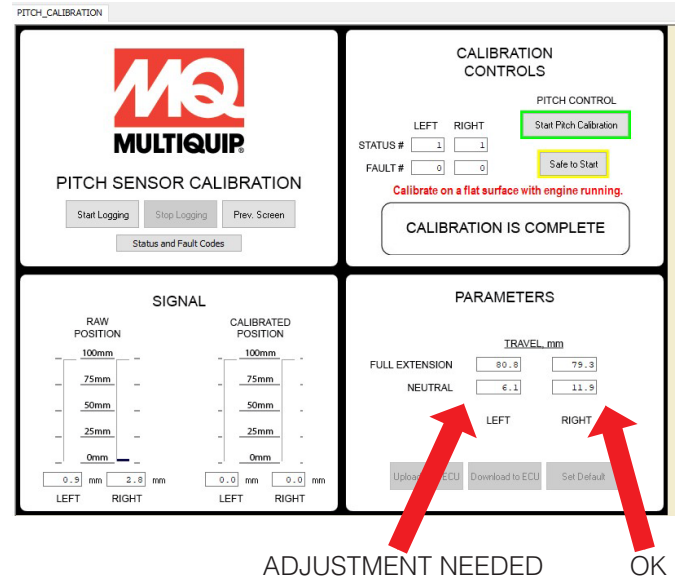

Figure 37. Neutral Calibration Points
9. Check that both left and right pitch neutral calibration points are at least 10.0 mm (Figure 37).